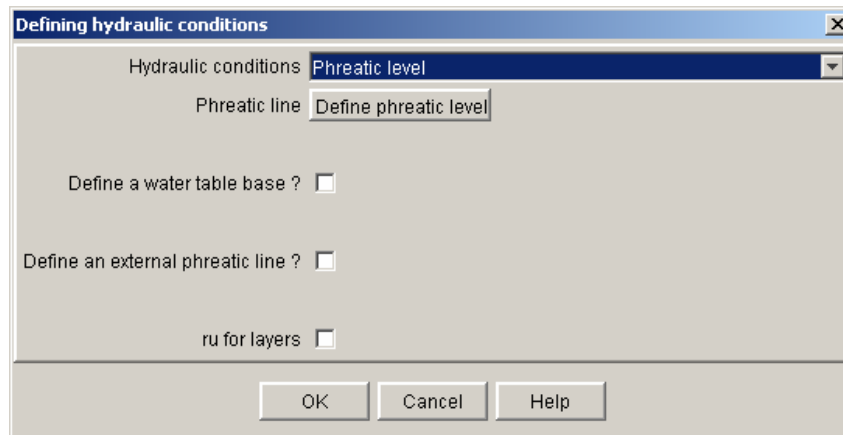
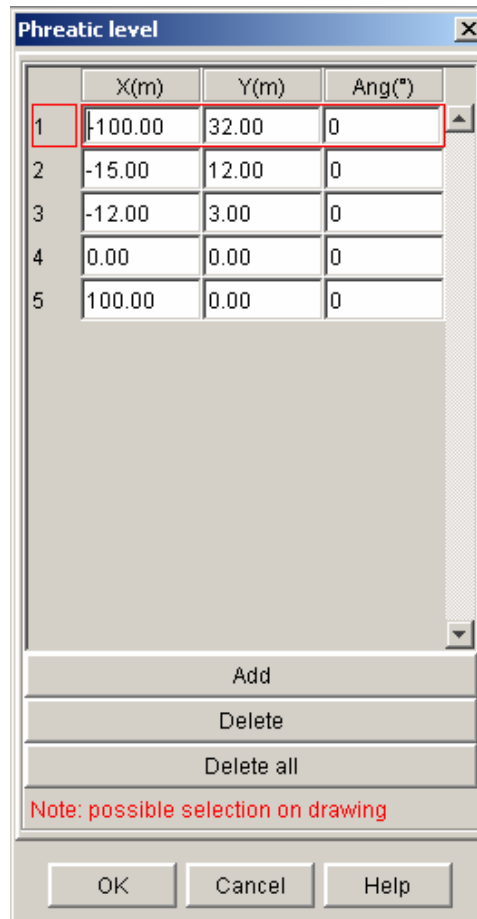

Figure 75: hydraulic conditions dialogue box
Figure 76: definition of the groundwater level
A dialogue box is opened (Figure 75), and several options are available.
- Phreatic line (i.e. groundwater level): select the "Phreatic level" option (Figure 75), and click on the "Define phreatic level" button. A new dialogue box opens (Figure 76), and enables to type in the points defining the groundwater level.